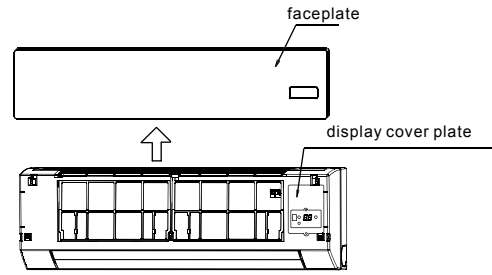

Fig. 7-1
- Take out the faceplate, then dismantle the display cover plate. (Refer to Fig 7-1)